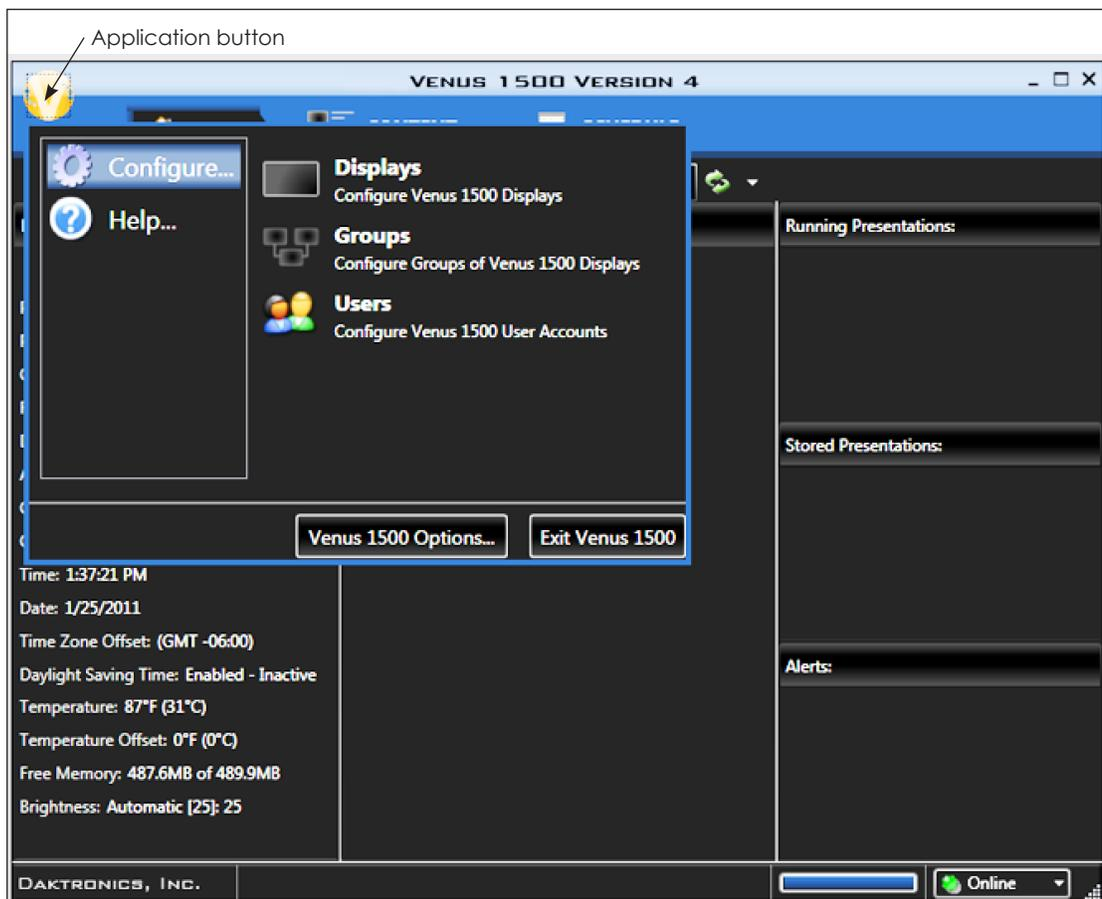

Figure 42: Begin Display Configuration
2. Click the **Application** button, highlight **Configure**, and click **Displays**. Refer to **Figure 42**.